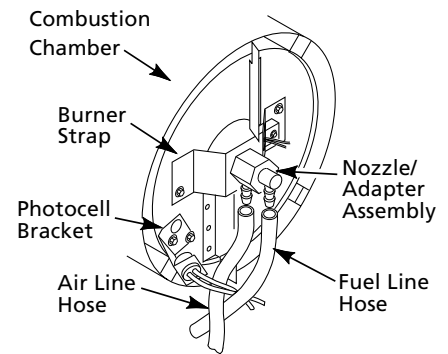
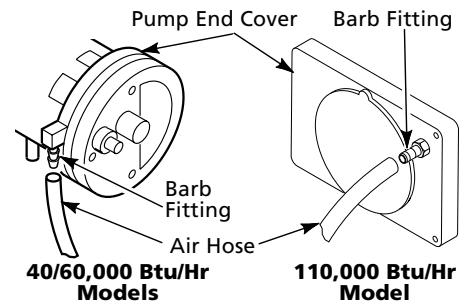

Figure 18 - Removing Air and Fuel Line Hoses (40 and 60,000 Btu/Hr Models Only)
Figure 23 - Air Hose to Barb Fitting
14. Replace photocell in photocell bracket. Route wires as shown in Figure 18, 19, or 20.
3. Remove fuel and air line hoses from nozzle assembly (See Figure 18, 19, or 20).
4. Inspect fuel and air line hoses for cracks and/or holes. If fuel line hose is damaged, disconnect from nozzle adapter (See Figure 18, 19, or 20) and from fuel filter (See page 7). If air line hose is damaged, disconnect from nozzle adapter (See Figure 18, 19, or 20) and from barb fitting on pump end cover (See Figure 23).
5. Install new air and/or fuel line. Attach one end of air line hose to barb fitting on pump end cover (See Figure 23) and the other end to nozzle adapter (See Figure 18, 19, or 20). Attach one end of fuel line hose to fuel filter (See page 7) and the other end to nozzle adapter (See Figure 18, 19, or 20).
NOTE: Route hoses as shown in Figure 18, 19, or 20 according to Model. Hoses are not to touch photocell bracket.